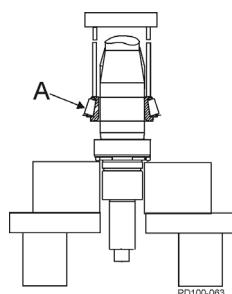

Figure 79 - Press Lower Cone onto Shaft
1. Lift the lower cone and roller assembly (Figure 79, item A) out of the bearing stack and place it on the shaft with the radius facing down. Press it onto the shaft until it is seated against the shaft shoulder. **Press only on the inner cone.**